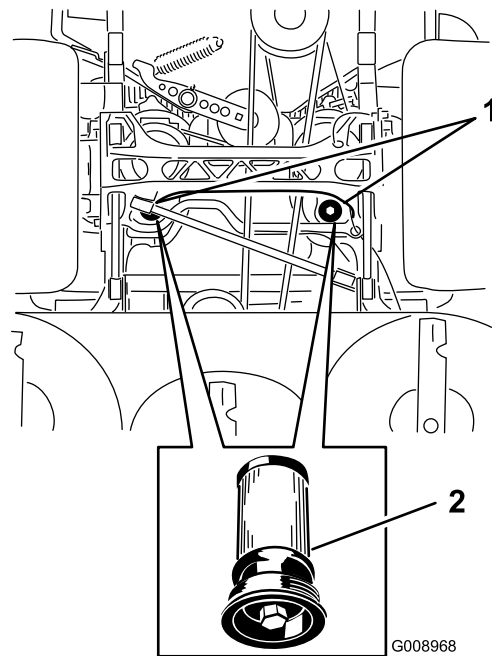

Figure 101
5. Place a drain pan under the filter, remove the old filter, and wipe the surface clean (Figure 101).
6. Apply a thin coat of hydraulic fluid to the rubber gasket on the replacement filter (Figure 101).